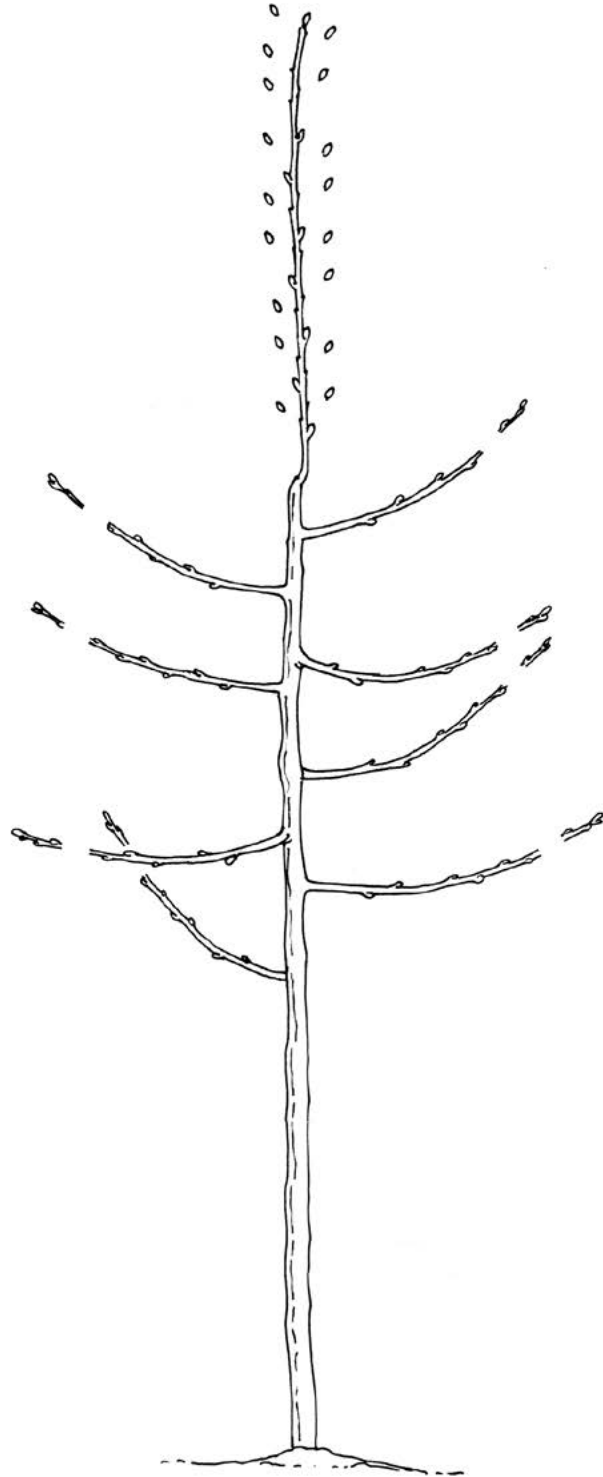

Figure 57
- If six or more lateral branches were achieved in the first year, these should be headed, preferably just beyond two side-oriented buds, to remove 15–25 percent of the length (less for weaker shoots, more for stronger shoots) (Figure 57).